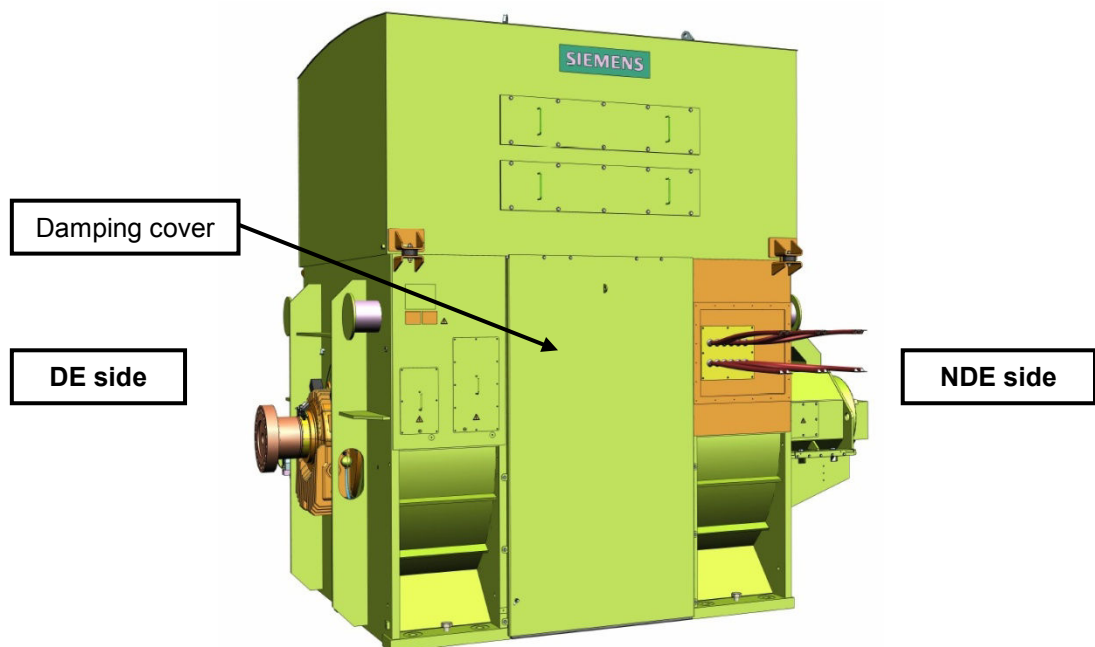

Figure 3-1 Description of machine sides
Facing to the drive end, flanges of the water coolers must be on the left side (in accordance with Figure 3-1, Page 8).
3. Prepare both damping covers for proper installation of the cooler housing. Damping covers are mounted on the both sides of the machine, see Figure 3-1, Page 8.